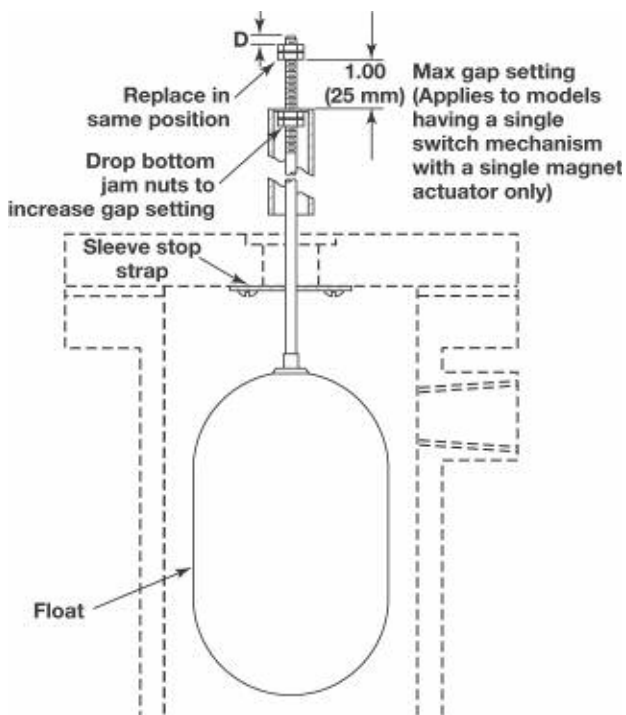

Figure 9
10. Measure the distance "D" from the top edge of the upper jam nuts to the top of the float stem. Refer to Figure 9. Record this measurement.
12. Loosen and adjust lower jam nuts to the desired position. Tighten lower jam nuts securely. Refer to Figure 9.
14. Replace upper jam nuts and guide washer on the stem in the position previously noted. Tighten upper jam nuts securely. Refer to Figure 9 on page 9.